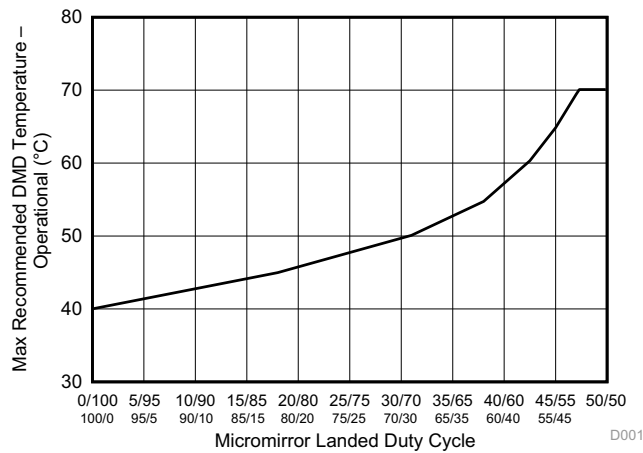

Figure 1. Recommended Maximum DMD Temperature – Derating Curve
(15) Long-term is defined as the average over the usable life.
(16) Per Figure 1, base the maximum operational case temperature derating on the micromirror landed duty cycle that the DMD experiences in the end application. Refer to Micromirror Landed-on or Landed-Off Duty Cycle for a definition of micromirror landed duty cycle.
(17) Array temperatures beyond the specified long-term operational DMD temperature are recommended for short-term conditions only (for example, power-up). Short-term is defined as cumulative time over the usable life of the device and is less than 500 hours.